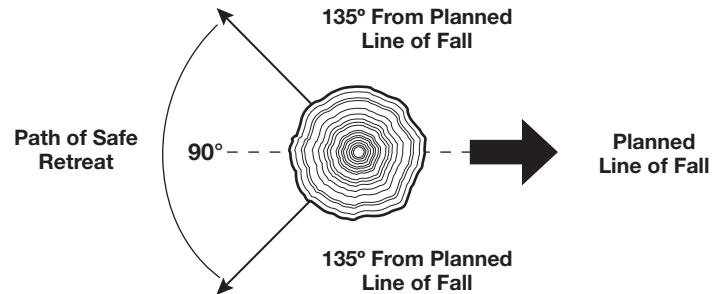

Fig. 12
- Determine a safe and expedient escape route. Clear the area around the tree and make sure there are no obstructions blocking the escape route. Establish a 90° corridor of escape, approximately 135° from the line of fall (Fig. 12).